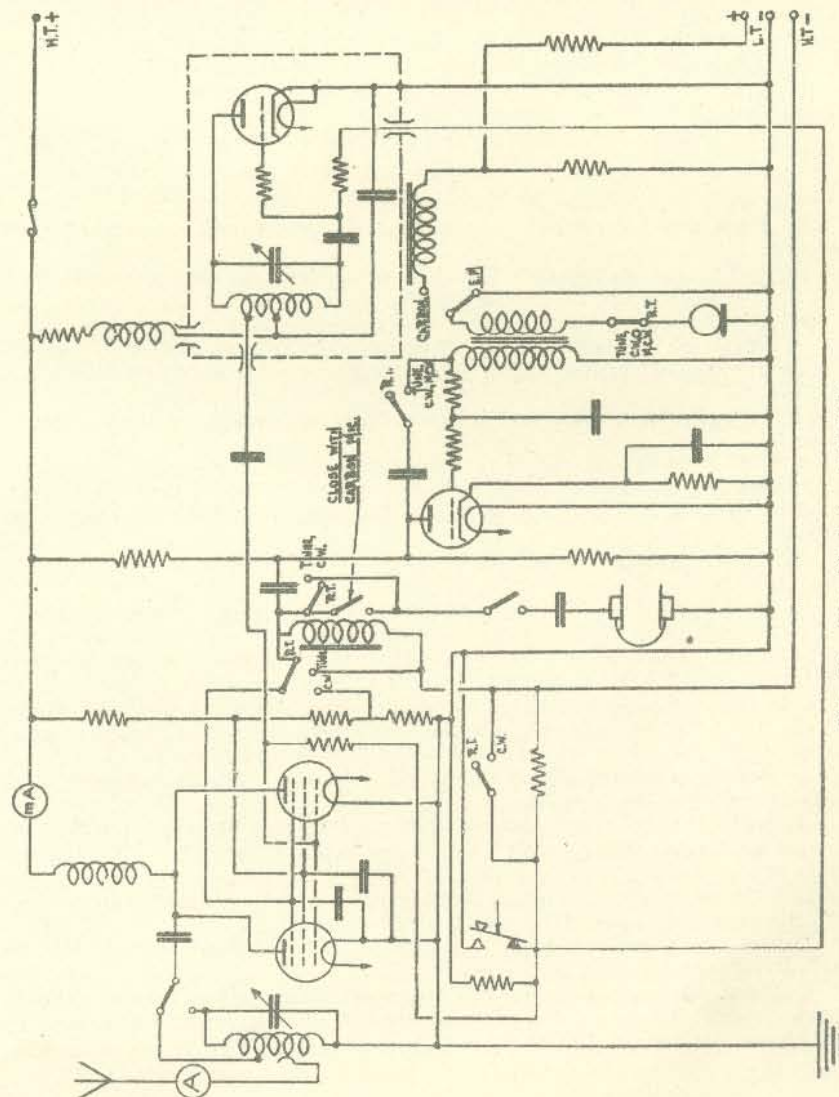

FIG. 83.—Simplified circuit T.1154.
6. *Circuit*.—A simplified circuit is at fig. 83. A Hartley M.O. is capacity-coupled to P.A., which has two pentodes in parallel. Neutralising is unnecessary. The P.A. is parallel-fed, and anode tap is varied automatically with P.A. tuning control. R/T and M.C.W. are obtained by suppressor-grid modulation of the P.A. A.F. voltage for modulation is obtained from the V.T.105 modulator valve, which acts as a 1,200 c.p.s. oscillator on M.C.W. It also oscillates on C.W., the audio note produced providing "side-tone".